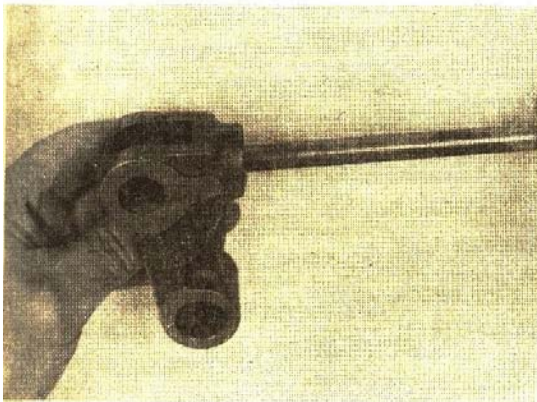

Fig. 4-7. Check the cam follower socket with the push tube
6. Cam follower levers have a removable socket (2, Fig 4-6). These must be replaced if scored or worn. Check with a new push rod ball with bluing compound. This area must show a continuous blue pattern over 80 percent of radius area or the socket must be replaced. Fig. 4-7.